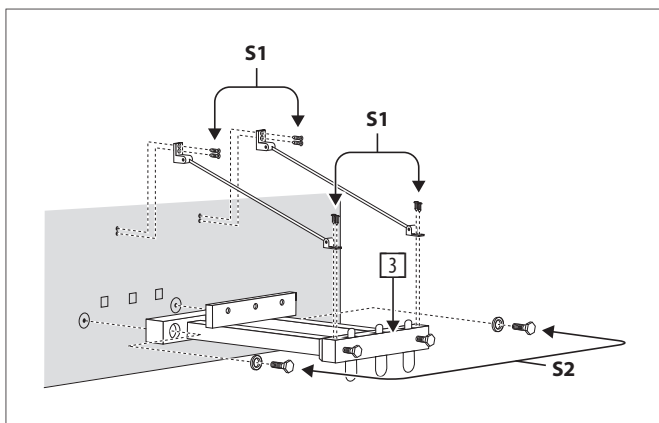

Fig. 2.3: Mounting the pedal board
- 3) Hold the pedal board **3** to the console with the pedals facing towards the floor. Tighten the board with two bolts (S2) locking the premounted nuts at the recessed positions of the console as shown in Fig. 2.3.